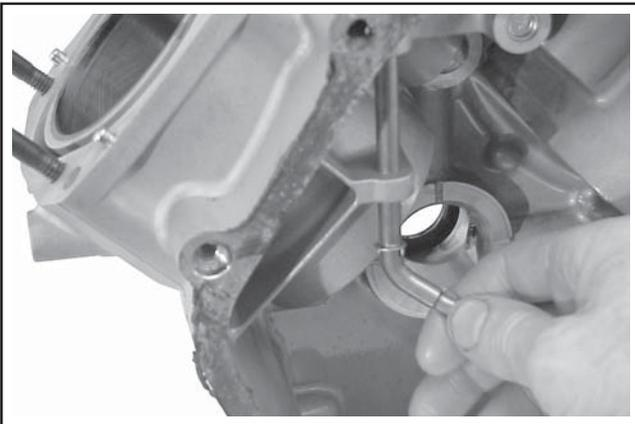

Figure 9-65. Removing Governor Cross Shaft.
2. Remove the cross shaft and small washer out through the inside of the crankcase. See Figure 9-65.